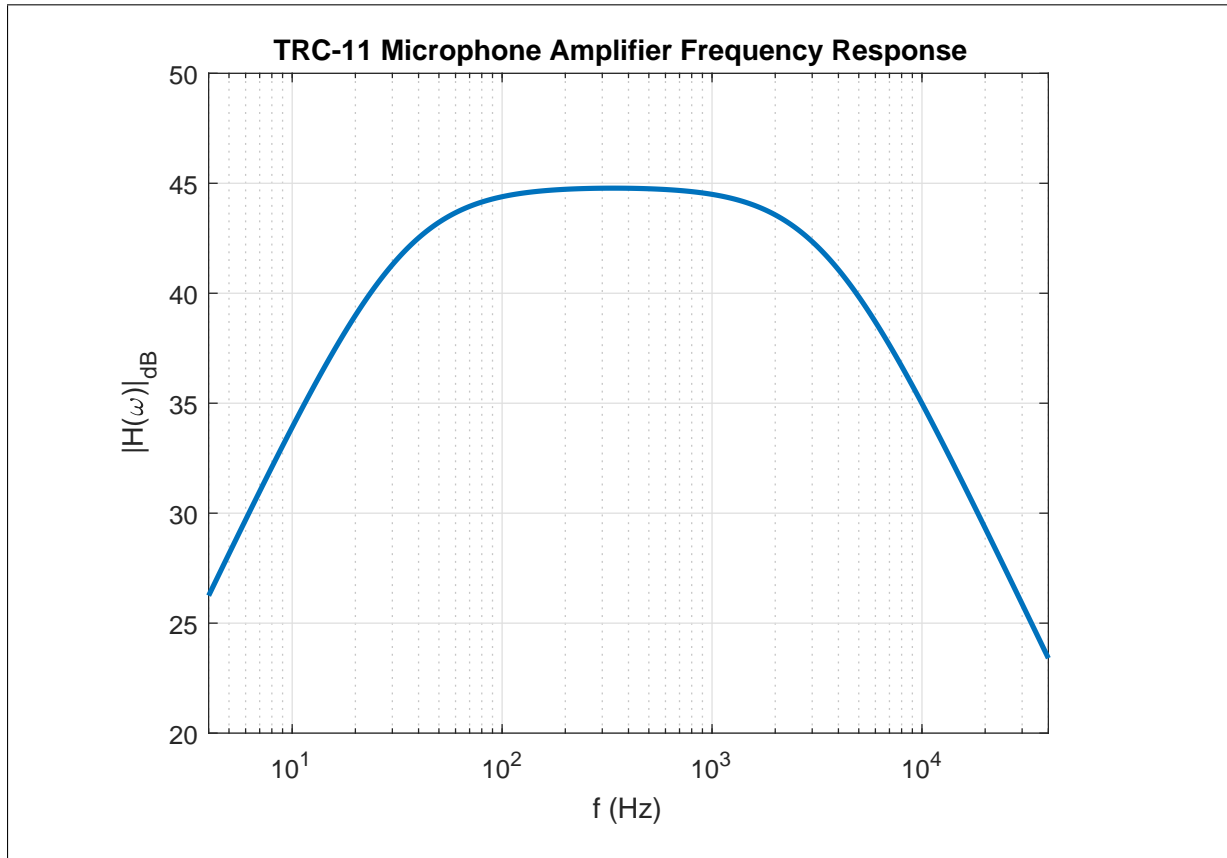

Figure 3: Calculated Frequency Response of the Microphone Amplifier
3. This transfer function in decibels is plotted in Fig. 3.
14. Find the values of the corner frequencies experimentally by finding the frequencies, f'_1 and f'_2 , where the gain is 3-dB less than (or $0.707 \times$) its mid-frequency gain value. Compare your results with the calculated values above and the curve shown in Fig. 3.